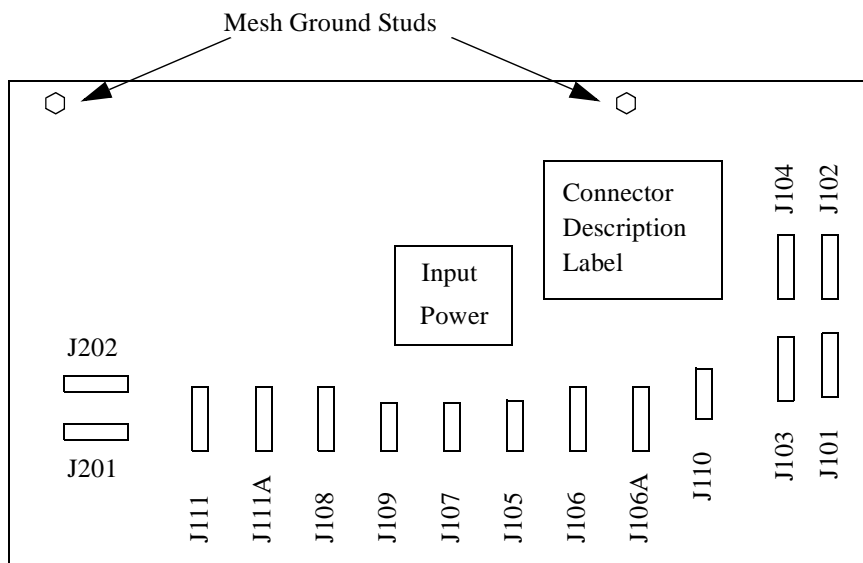
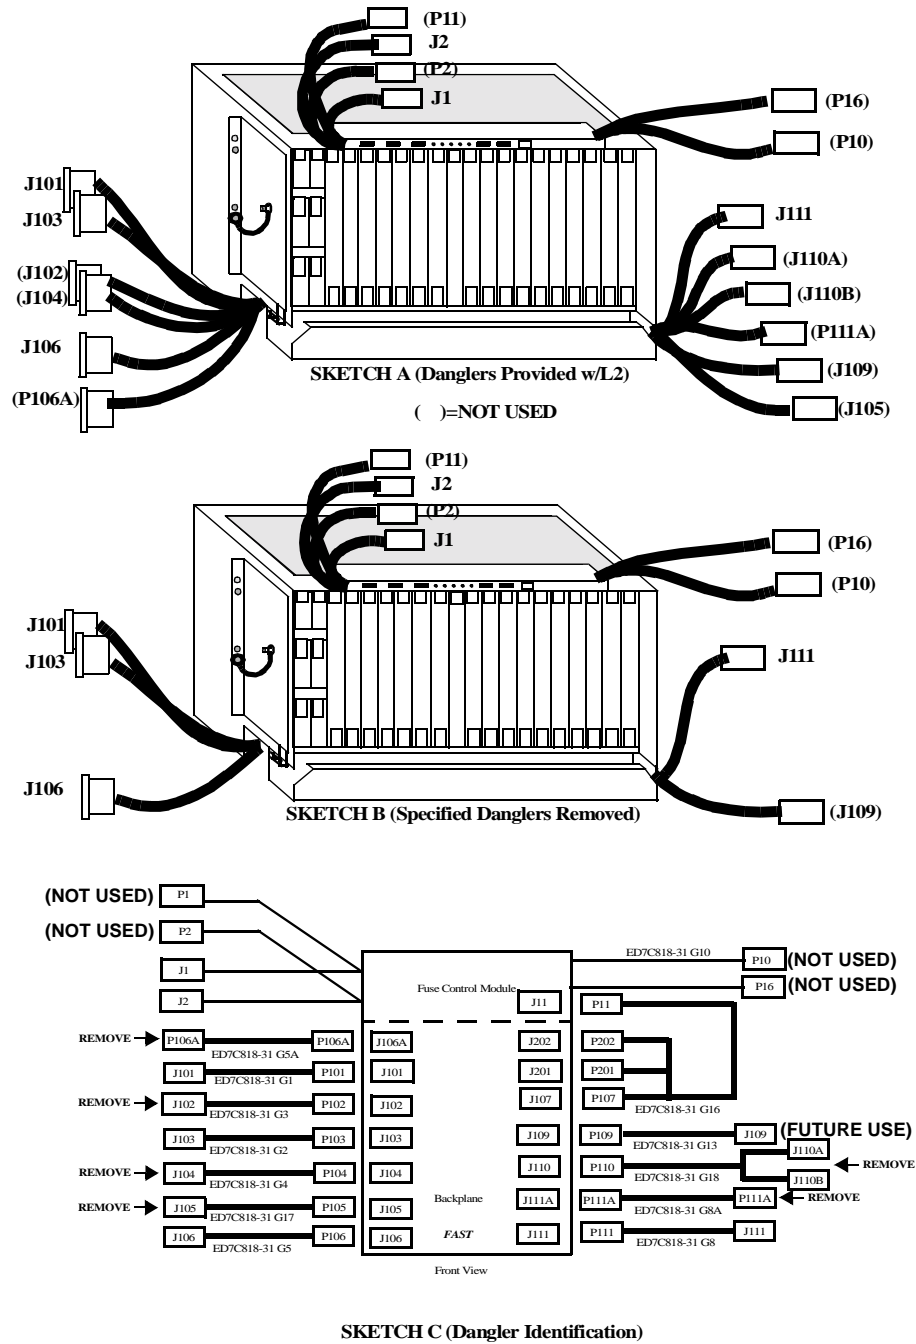

Figure 3. J1C282AC-1 FAST Shelf Backplane (Rear View)
Figure 5. Modification of Dangler Cables Provided with J1C282AC-1, L2 FAST Shelf
- C I**  **Step 1:** The *FAST* shelf may be configured for single point or multipoint grounding by the engagement or disengagement of studs located on the shelf backplane. The *FAST* shelf default is mesh grounding with the hex head grounding studs installed. Since all installations will involve this method of grounding verify that the studs are engaged. See Figure 3.
- C I \_\_\_\_\_  Step 3: The J1C282AC-1, L2 *FAST* shelf is equipped with dangler cables (connectorized extension cables from backplane connectors providing front access). See Figure 5 Sketch A for original complement of danglers. In order to minimize duct congestion unused danglers will be removed in the next step. See Figure 3 and 5 (Sketch B & C).
dress or hold dangler cables in forward position to eliminate interference when mounting FAST shelf. See Figure 5 Sketch B for applicable danglers.